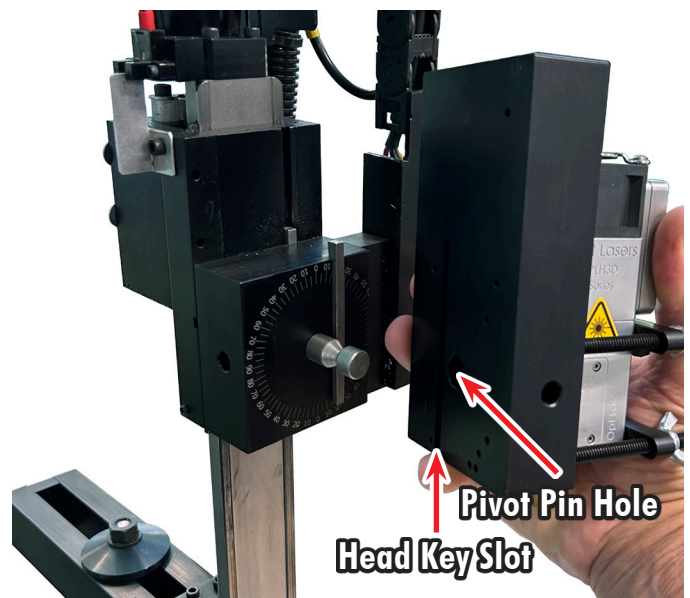

FIGURE 6—Align the head key slot and pivot pin hole on the back of the laser mount to the head key and the pivot pin on the column saddle.
3. With the laser either mounted or unmounted to the laser mount, hold the laser mount with the pivot pin hole and head key slot orientated towards the column saddle (see Figure 6).